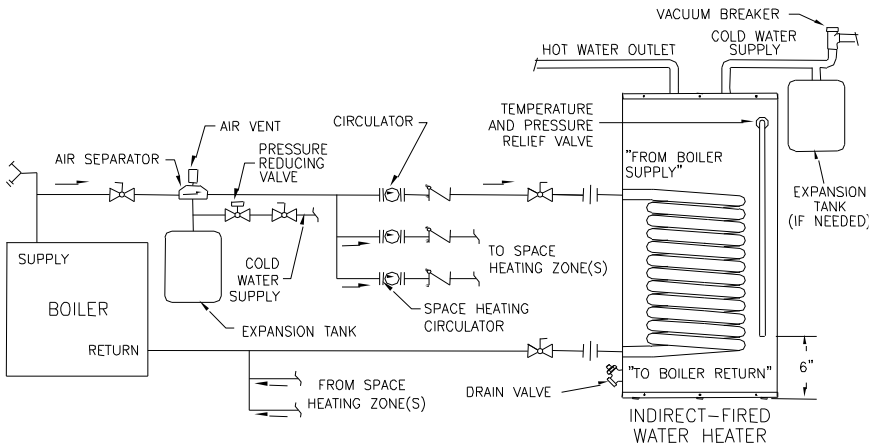

Figure 3 - Water Boiler Piping with Circulators
2. For a space heating system that utilizes CIRCULATORS, refer to Figure 3. The indirect-fired water heater connection labeled "FROM BOILER SUPPLY" should be piped to the boiler supply piping. Mount the circulator making sure the flow arrow points toward the water heater. The use of shut-off valves and unions are recommended for future service convenience. The use of an air separator and vent is recommended to eliminate air in the system. Pipe and fittings between the boiler and indirect-fired water heater must be $\frac{3}{4}$ " diameter or larger.